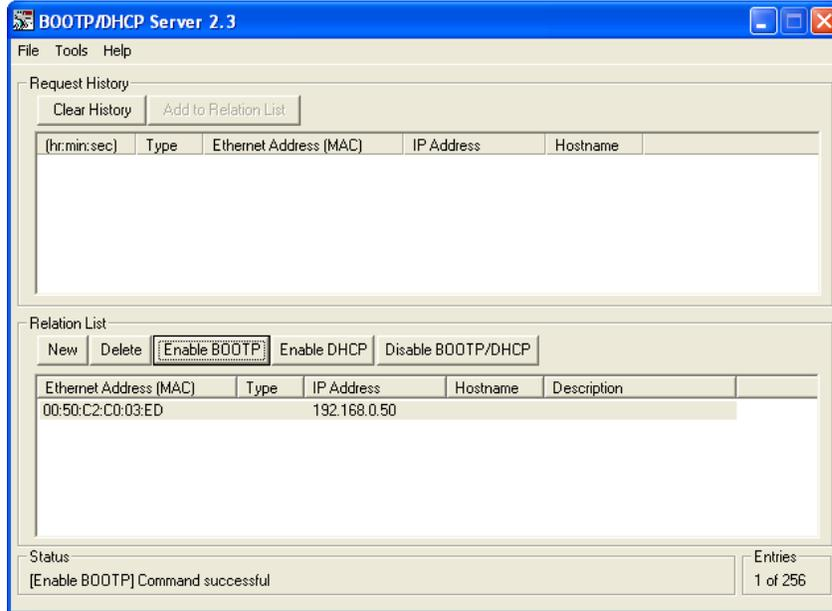

Figure T2.3 DHCP Enabled
5) Click on your new entry in the “Relation List”. This will activate the buttons in the pane. Click on the [Enable DHCP] button. The message “[Enable DHCP] Command successful” should appear instantly in the status line at the bottom of the window. Figure T2.3 shows the state of the RA Bootp Server software at this point.